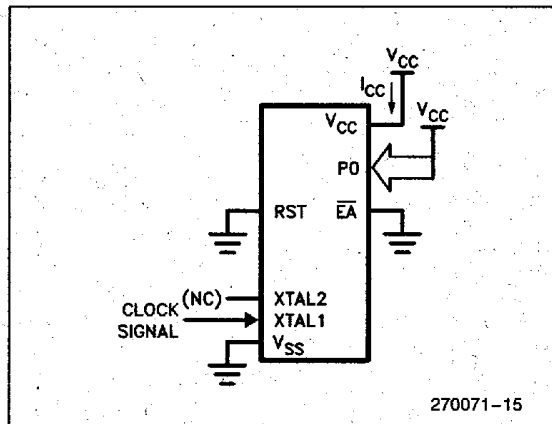

Figure 6. I_{CC} Test Condition, Idle Mode. All other pins are disconnected.
4. Idle I_{CC} is measured with all output pins disconnected; XTAL1 driven with TCLCH, TCHCL = 5 ns, $V_{IL} = V_{SS} + 0.5V$, $V_{IH} = V_{CC} - 0.5V$; XTAL2 N.C.; Port 0 = V_{CC} ; $\overline{EA} = RST = V_{SS}$ (see Figure 6).